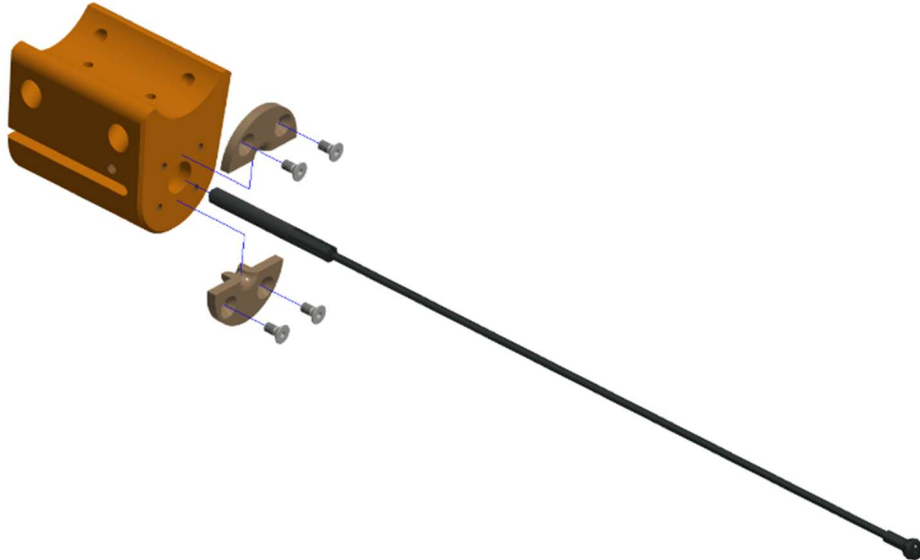

Figure 10-52. Attach the Achilles Cable and the Eyelet Guide to the Lower Achilles Spring Housing
- 10.3.17 Attach the Achilles Cable (474-5530) and the Achilles Cable Eyelet Guide (474-5531) to the end of the Lower Achilles Spring Housing (474-5504) using four M3 X 0.5 X 6 LG. FHCS (Figure 10-52).